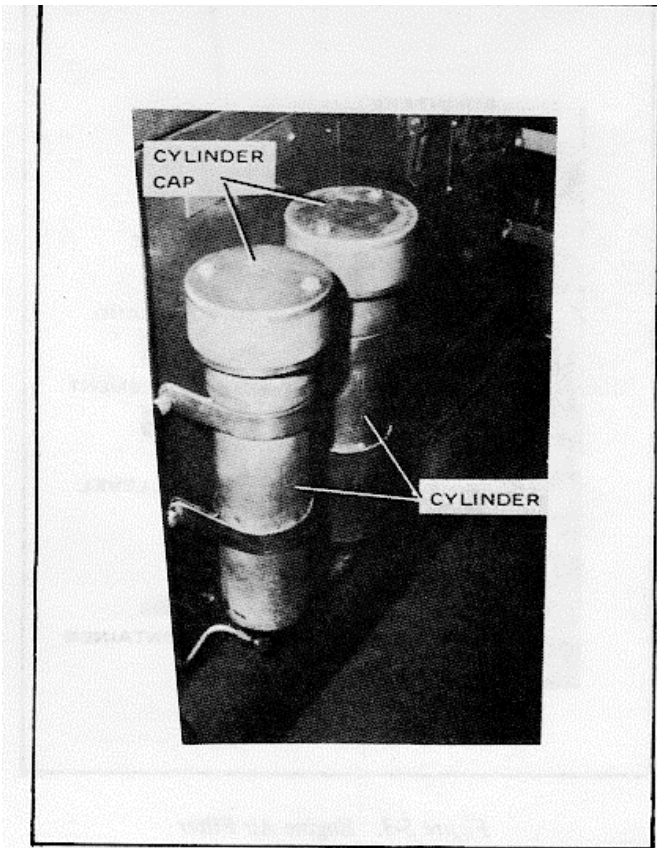

Figure 5-4. Dehydrators
5-7. Dehydrators and Air Purification Cylinders. (See Figure 5-4 and Figure 8-2). The cartridges and filter elements shall be changed in accordance with the number of recorded operating hours. (See Table 5-2.) To change the cartridges on cylinders, proceed as follows:
f. Place fresh type MA-2 cartridge in both dehydrator cylinders (cylinders 1 and 2) (see Figure 5-4 and Figure 8-2).